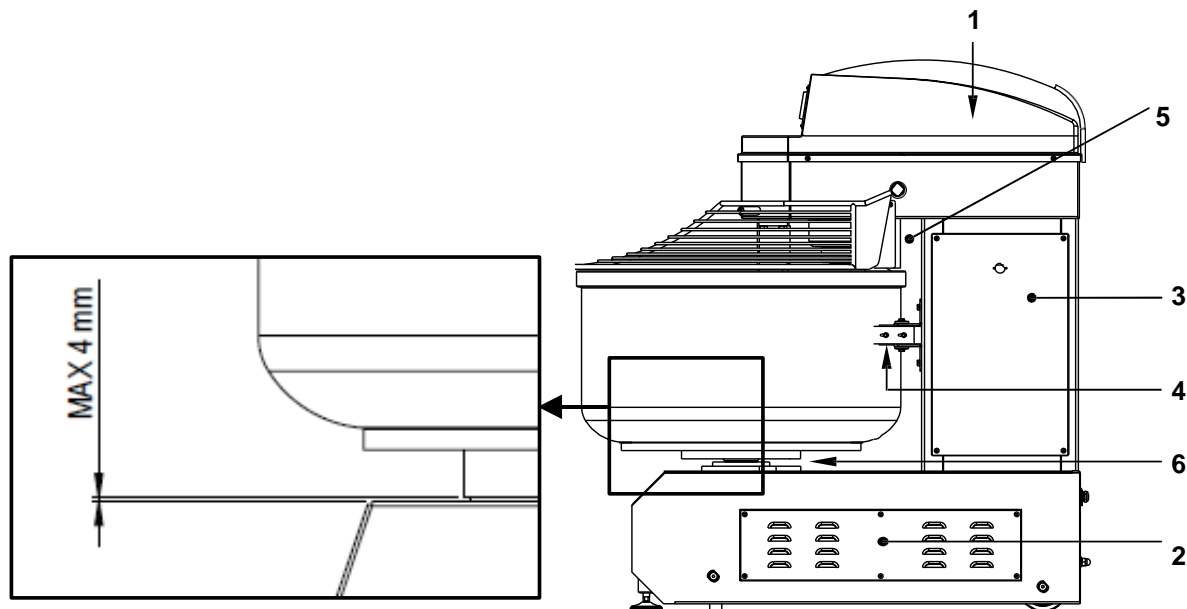

Figure 23 - Guards fixed with screws or similar devices
2. **Fixed guards:** they are guards kept locked by fastening elements which cannot be dismantled without using equipment; if they are correctly assembled and fastened on the base, they particularly (but not only) make the drive units moving the spiral arm and the bowl inaccessible. In detail (see Figure 23):
- the drive units moving the spiral arm are segregated using the guard ref. 1.
- the drive units moving the bowl are segregated using the guards ref. 2. (electric box and relevant closure panel) and ref. 3.
| C |  | It is forbidden to remove guards and/or disable the safety devices(with reference to Figure 23 the guards ref. 1 and ref. 2)  |
| D |  | It is forbidden to clean, lubricate, etc. units of the machine in motion(on both sides of the machine near the risk zones B and C of par. 5.2.1; with reference to Figure 23 ref. 1 and ref. 2) |